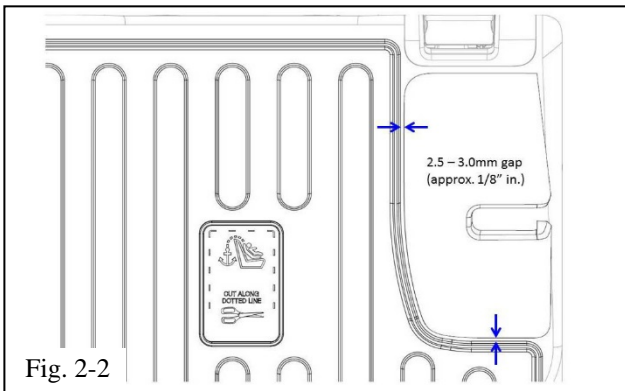

Fig. 2-2
- (c) Leave a small gap between the tray and plastic cover of approximately 2.5 to 3 mm (Fig. 2-2).